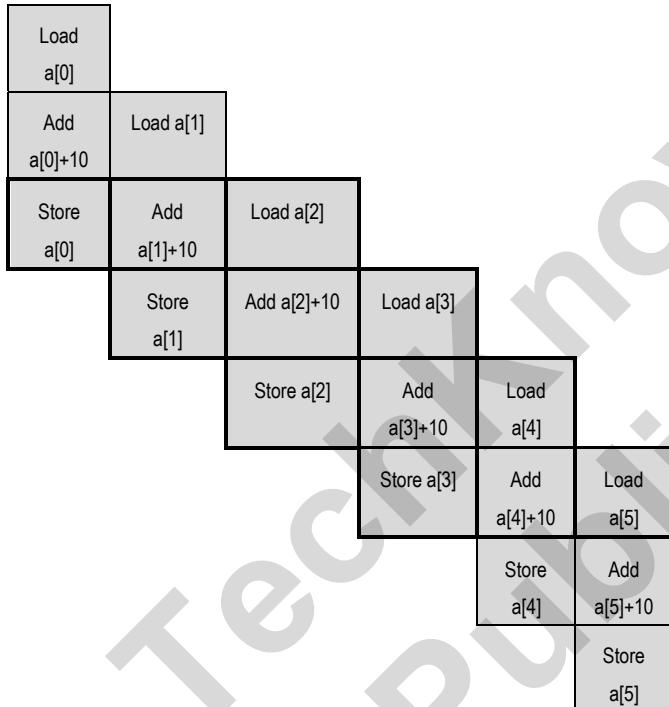

Fig. 10.9.2 : Software pipelining
- When this is converted to pipeline, it will look as shown in the Fig. 10.9.2. But the three instructions, one below the other are dependent and hence cannot be pipelined. But the instructions that are circled can be pipelined.
- You will notice in the Fig. 10.9.2, that the three instructions that are circled are store, add and load. These instructions are always independent i.e. they have different data to operate on.